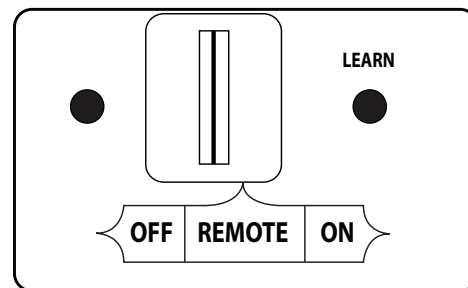

Fig. 29-2 Remote receiver (OFF for Manual Light)
1. Ensure the pilot is burning. Then locate the 3-position switch on the remote receiver (see Fig. 29-2), and slide the switch to the **OFF** position.